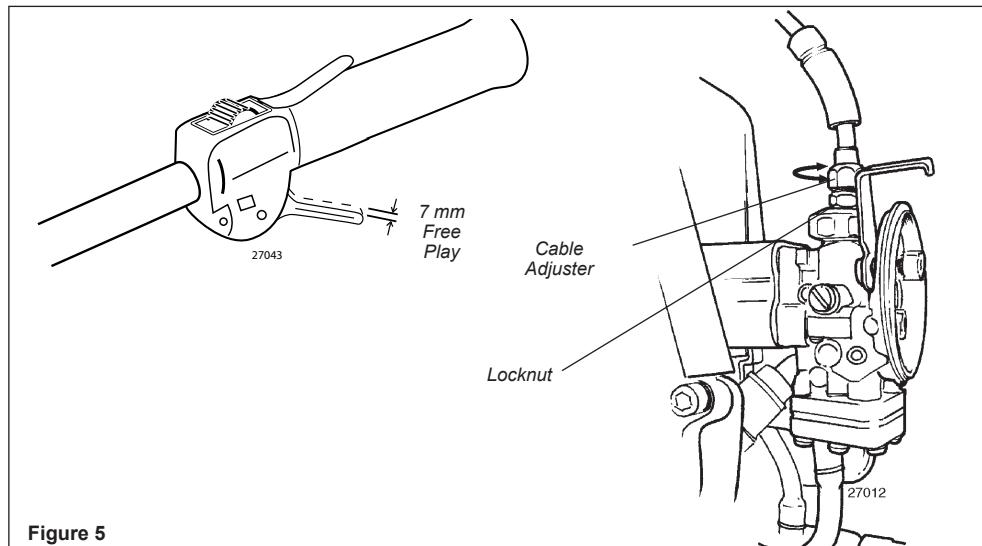

Figure 5
The throttle lever free play should be approximately 7mm. See Figure 5. Make sure that the throttle lever operates smoothly without binding. If it becomes necessary to adjust the lever freeplay, follow the procedures and illustrations that follow.
1. Loosen the lock nut on the cable adjuster. See Figure 5.
2. Turn the cable adjuster in or out as required to obtain proper free play of 9/32 inch (7mm). See Figure 5.